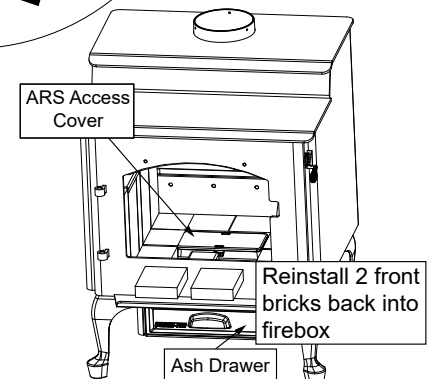

Figure 24.4
- Replace 2 front bricks that were removed (**Figure 24.4**).
- Install ARS access cover inside of ARS Channel that is located inside the firebox (**Figure 24.4**).